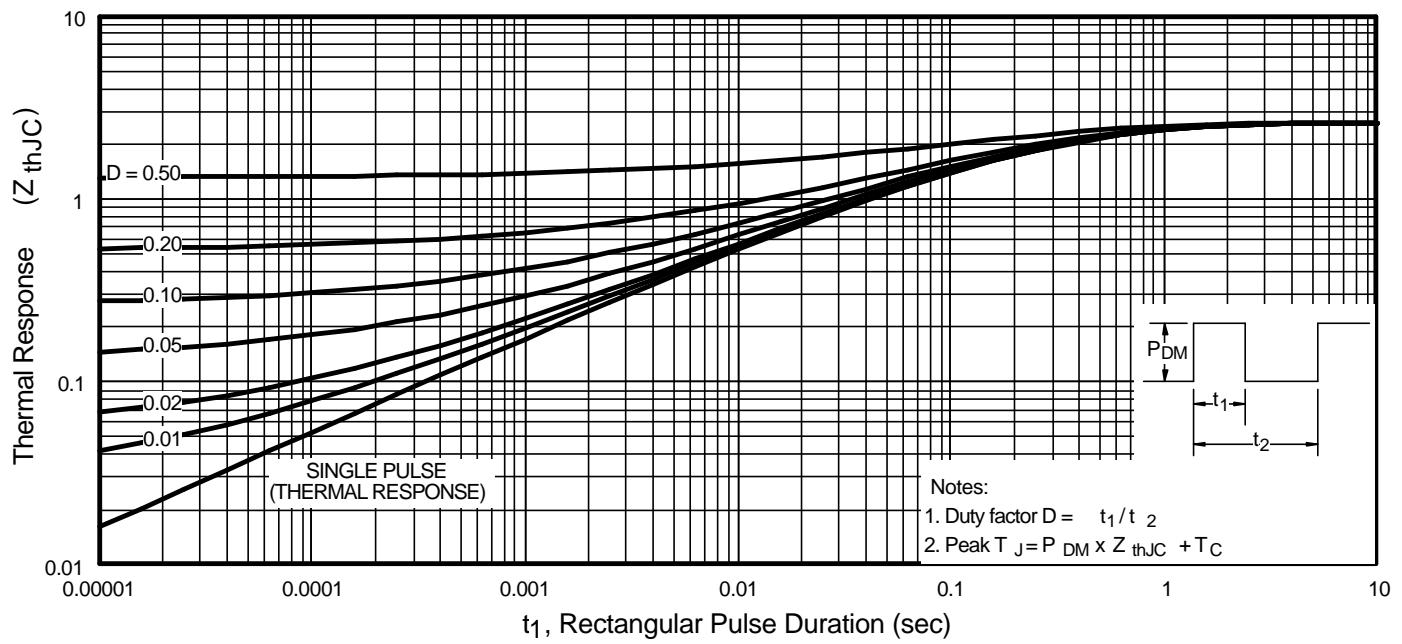

Fig 11. Maximum Effective Transient Thermal Impedance, Junction-to-Case
- ① Repetitive rating; pulse width limited by max. junction temperature. (See fig. 11)
② $V_{\text{DD}} = 25\text{V}$, starting $T_J = 25^\circ\text{C}$, $L = 320\mu\text{H}$